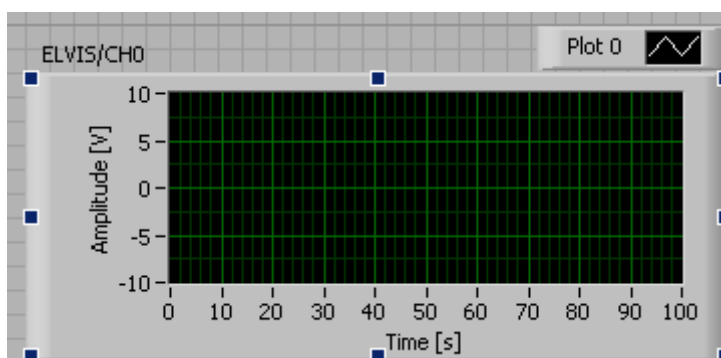

Figure 5-2
- To **resize** an element: move the mouse cursor on the edge of the element you want to resize; markers appear around it (see Figure 5-2). Click on a marker and drag to resize the element.